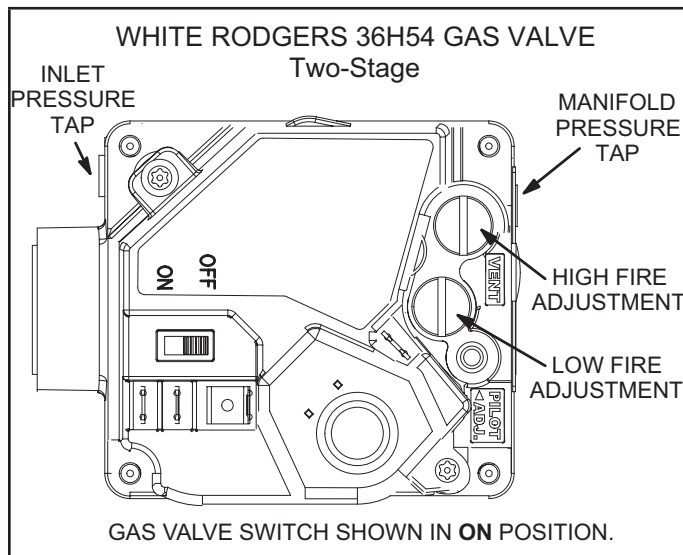
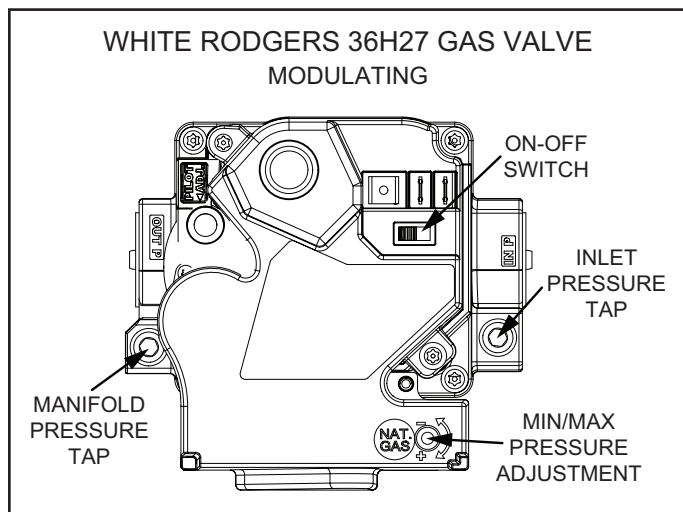

FIGURE 32
FIGURE 33
- 5 - Turn gas valve switch to **OFF**. See FIGURE 32 and FIGURE 33.
- 6 - Wait five (5) minutes to clear out any gas. If you then smell gas, **STOP!** Immediately call your gas supplier from a neighbor's phone. Follow the gas supplier's instructions. If you do not smell gas, go to the next step.
- 7 - Turn gas valve switch to **ON**. See FIGURE 32 and FIGURE 33.
For White Rodgers 36H54 and 36H27 valves (FIGURE 32 and FIGURE 33), supply pressure is accessed by removing 1/8" hex screw. Remove the 1/8" hex screw and install a 1/8" fitting with hose barb. Connect tubing from the barbed fitting and route to measuring device to measure supply pressure.
For White Rodgers 36H54 and 36H27 valves (FIGURE 32 and FIGURE 33), remove supply pressure barbed fitting and reinstall the 1/8" hex screw.
For White Rodgers 36H54 and 36H27 valves (FIGURE 32 and FIGURE 33) manifold pressure, remove the 1/8" hex screw, install 1/8" fitting with hose barb, connect hose from barb to "+" side of measuring device.
- 4 - If necessary, adjust manifold pressure. FIGURE 32 and FIGURE 33 show adjustment screw(s) locations.